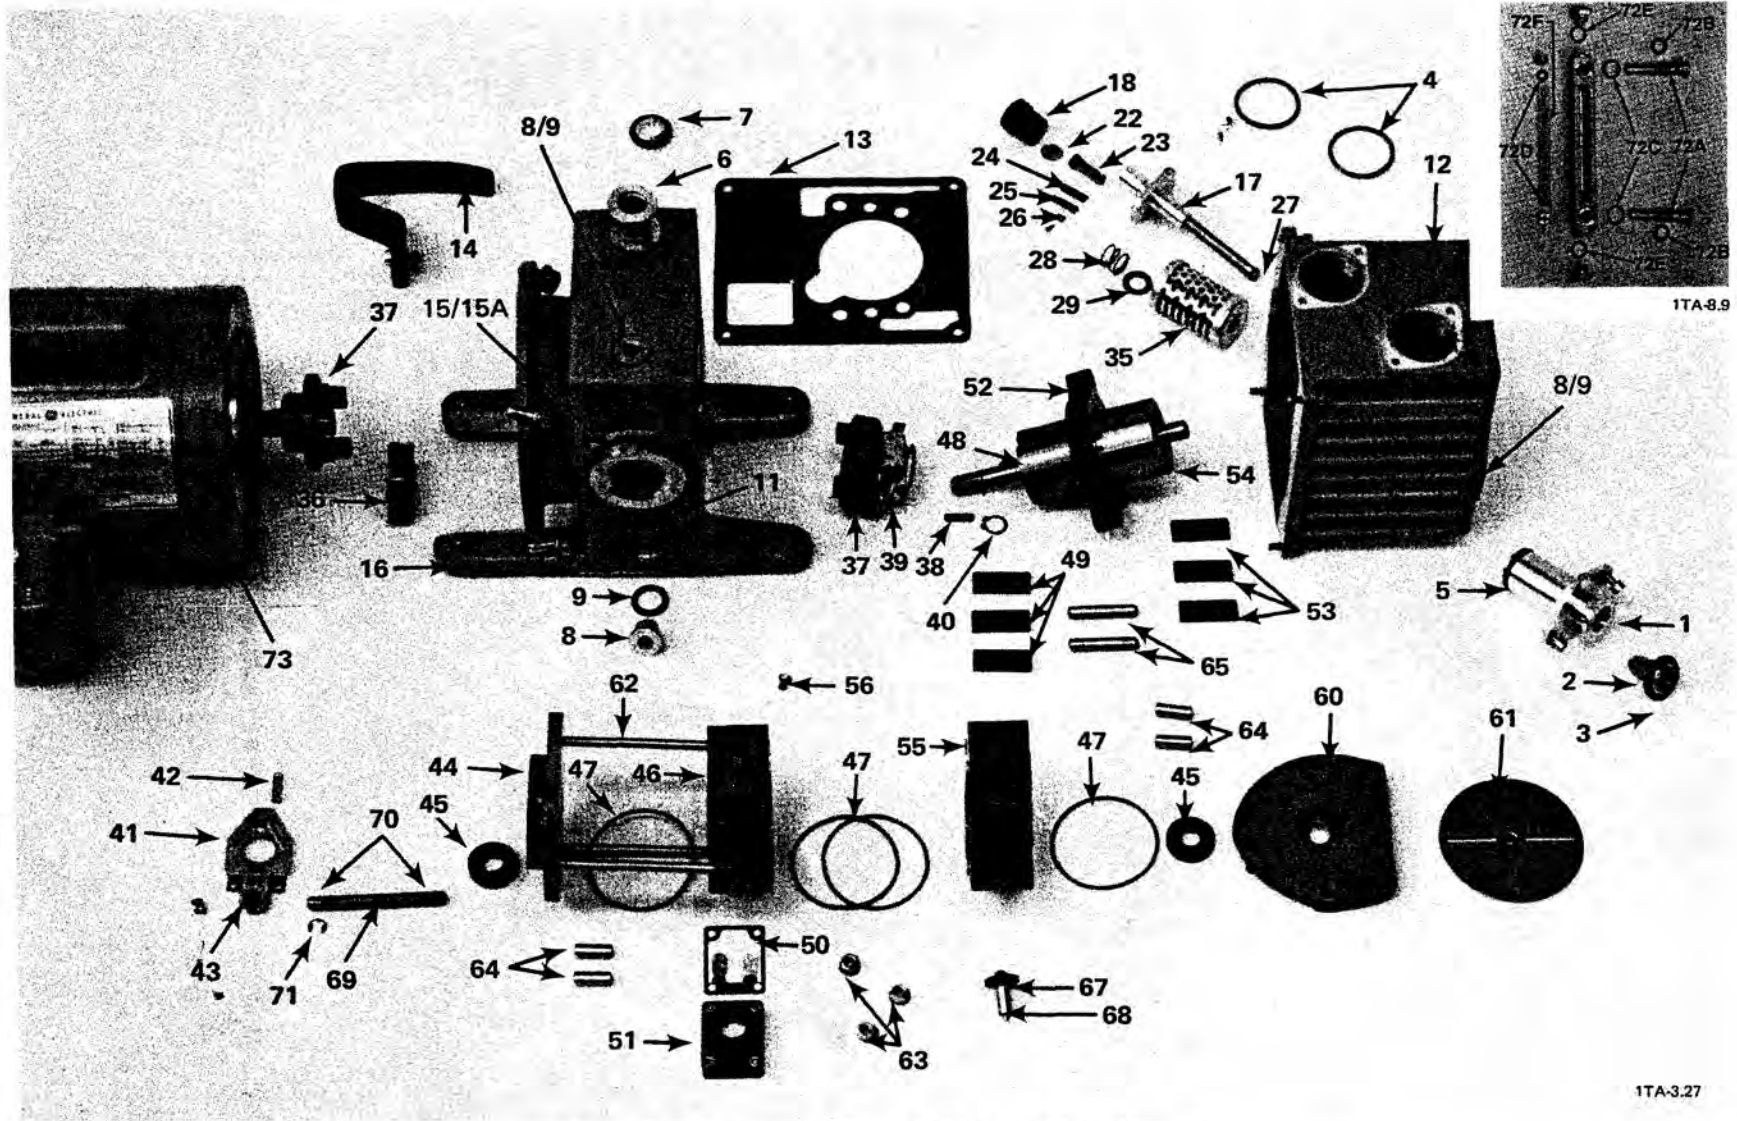

Figure 7-1. Disassembled Pump (D2A Pump Model Shown)
**Use Figures 7-1 and 7-2** to help identify the part that you need. The numbers called out in the figures correspond to the position number listed for each part in the first column of **Table 7-2**. For example, the first column on **Page 58** lists "1" for the intake tube. One **Figure 7-1**, the number "1" is pointing to the photograph of the intake tube.